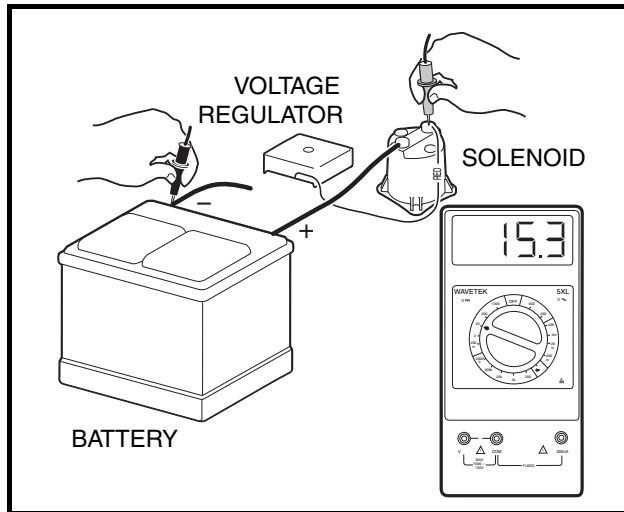

Figure 11-22 Test Voltage Regulator
5. Turn the key switch to the OFF position, killing the engine. Using a multimeter set to 20 volts DC, place the red (+) probe on the large post of the solenoid with the red wire from the voltage regulator attached. Place the black (–) probe on the negative (–) battery post (**Figure 11-22, Page 11-23**). With the Forward/Reverse handle in the NEUTRAL position and the wheels chocked, turn the key switch to the START position to start the engine. Press the accelerator to run the engine at full governed speed. If the reading is between 14.7 and 15.3 volts, the regulator is good. If the reading is lower than 14.7 volts but rising steadily, check battery condition. **See Hydrometer Test on page 11-11.** If the reading is lower than 14.7 volts and not rising, and the starter/generator is good; or if the reading is over 15.3 volts and continues to rise, replace voltage regulator. **See Voltage Regulator Removal, Section 12, Page 12-21.**